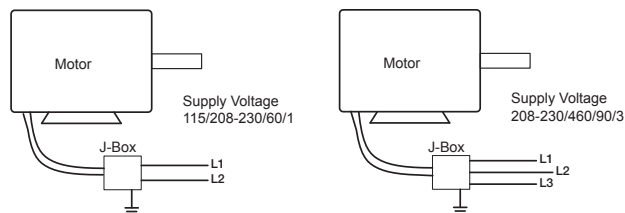

Figure 9
2. Wire motor for desired voltage per wiring diagram on motor or refer to Figure 9 for connection wiring diagram.